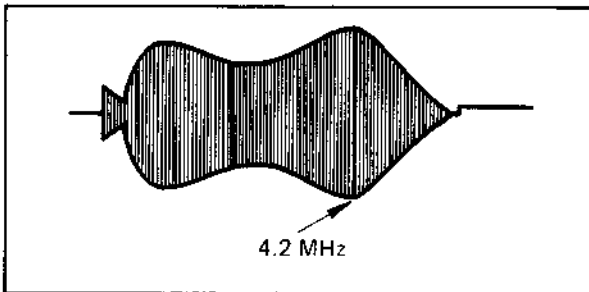

Fig. 5-22 RF sweep (MH-1)
3. Adjust C27 (SP F2) of the PRE/REC board to set the CH-2 resonance point to 4.2 MHz. See Fig. 5-22.